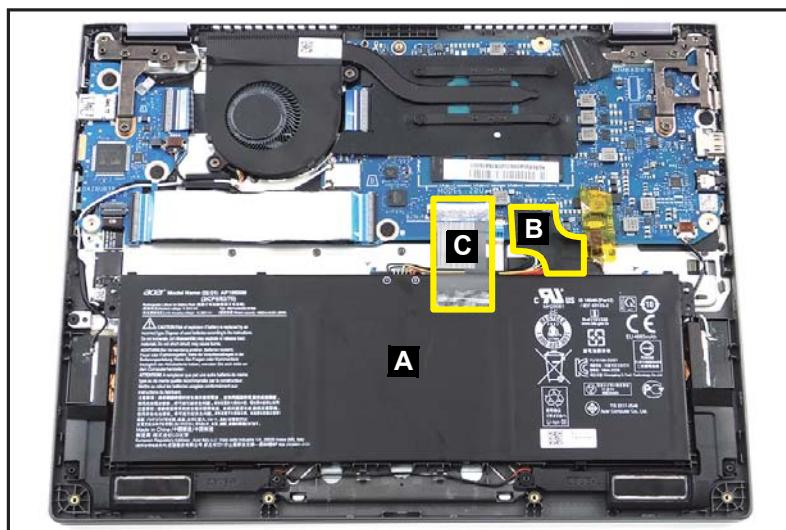

Figure 1-6. Battery Pack Removal
1. Find the battery pack (A) on the top assembly (Figure 1-6).
2. Detach the tape (B) securing the battery cable to the mainboard connector (Figure 1-6).
3. Detach the transparent mylar (C) securing the battery cable and keyboard FPC (Figure 1-6).